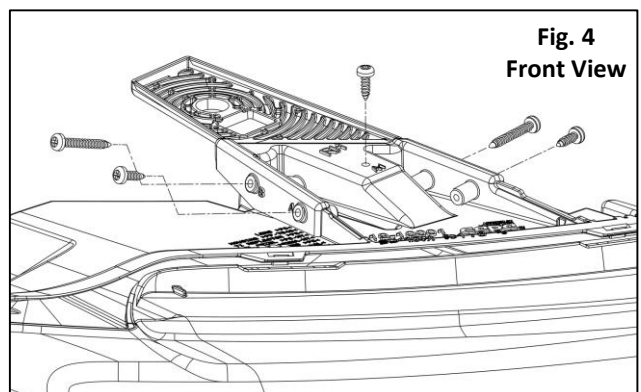

Fig. 4
4. Install: Install the prepared tab(s) ensuring a flush fit to the housing **Fig. 4**. Next, drive the 5/8" screw at location **(A1)**. Then drive the two 5/8" screws at the locations marked **(A)**. Lastly, drive the two 1-1/4" screws at the locations marked **(B)**. Do not over-tighten the screws. Allow the glue to cure for approximately 30 minutes before installing the repaired headlight on the vehicle.